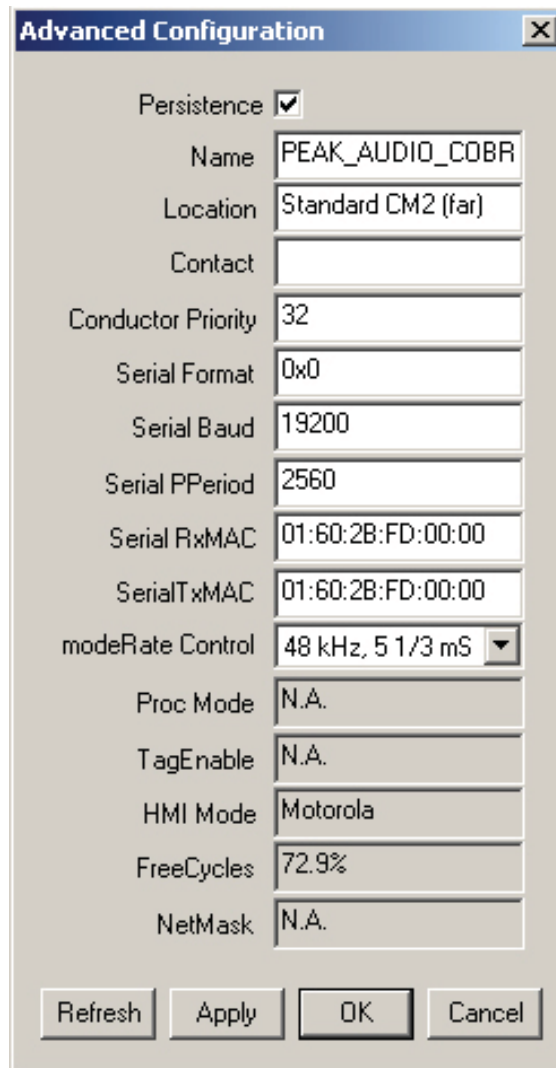

Figure 4-4: Global Interface settings
- Main Interface settings: This section covers the more advanced variables not usually associated with bundle management and which apply to the CobraNet™ device globally (see Figure 4-4). These are explained in detail in the CNDISCO manual, but 2 are of particular importance to the ION series interfaces, ie...
The STAGE 8.8 is a simple device and does not contain a host processor and no access to multiple preset functionality. However, the Cobranet flash can be used to save Cobranet interface settings via “persistence” (see previous section and Figure 4-4). If the persistence option is enabled, then the last set of values/settings can be stored into the Cobranet flash and will be restored on power up. Note that these settings can take up to